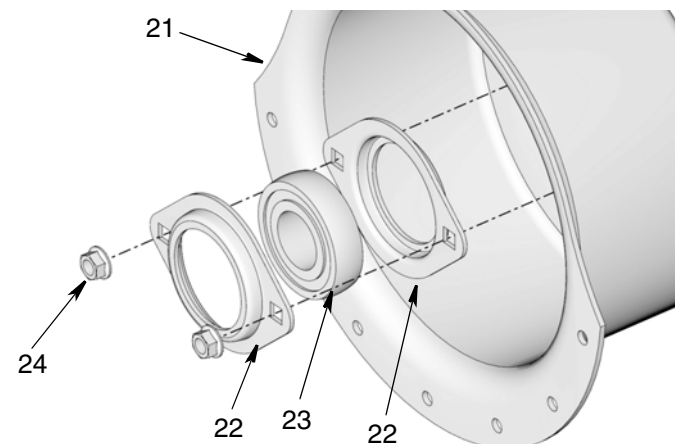

FIG. 18
- b. Remove nuts (24), bearing flange (22), bearing (23) and bearing flange (22) from motor mount bracket (21) (FIG. 18).